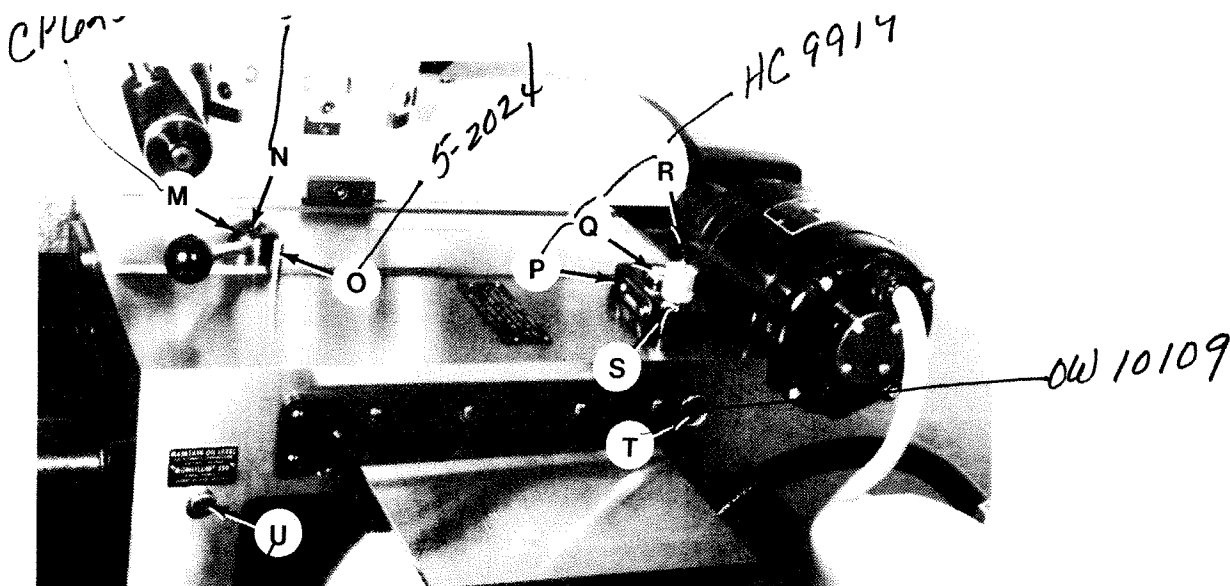

Figure 1.25 - Carriage Lubricator
- a) Remove reservoir cap "U", Figure 1.25 .
- c) Replace reservoir cap "U", Figure 1.25.
Lubricator "P", Figure 1.25, is used to lubricate the carriage and bed ways.
21. Fill lubricator reservoir "P", Figure 1.25, with Mobil[®] Vactra[®] Oil No. 2 or equivalent. The reservoir is full when sight gauge "T" is completely filled with oil.
Remove four screws "S" and lift lubricator "P", Figure 1.25, from the carriage. Clean the lubricator and the oil reservoir with mineral spirits.
To fill the oil reservoir, remove reservoir cap "Q", Figure 1.25, and fill with Mobil Vactra Oil No. 2 or equivalent. Maintain the oil level in sight gauge "T".
1. Remove reservoir cap "U", Figure 1.25 .
3. Replace reservoir cap "U", Figure 1.25 .